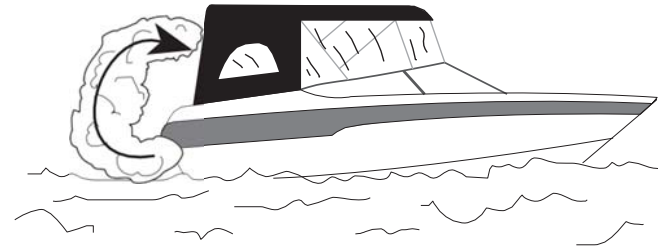

Figure 2.3 - Exhaust accumulations while canvas is in place
**DANGER:** Engine exhaust from your boat while underway can cause excessive accumulation of carbon monoxide within the cabin and cockpit areas when using protective weather coverings. Provide adequate ventilation when the canvas top, side curtains, and/or back curtains are closed. (Figure 2.3)